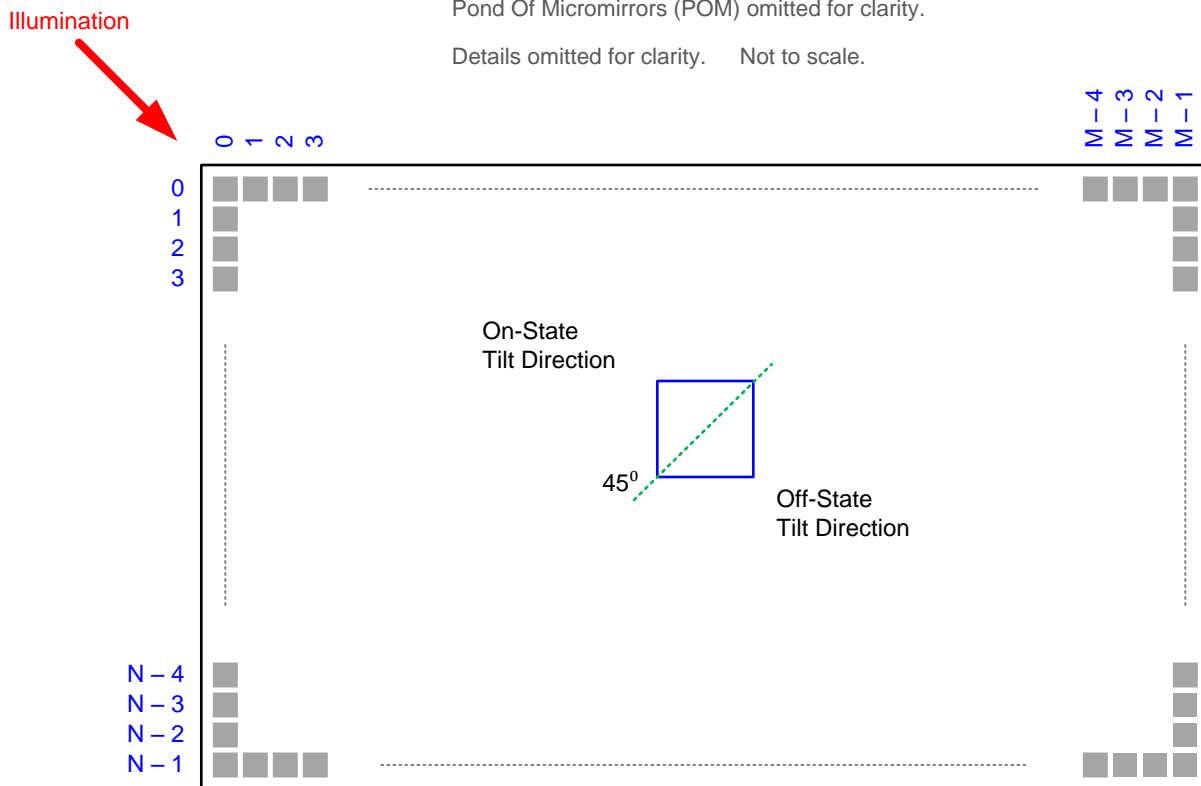

Figure 9. Micromirror Landed Orientation and Tilt
- (1) Measured relative to the plane formed by the overall micromirror array.
(2) Variation can occur between any two individual micromirrors located on the same device or located on different devices.
(3) Additional variation exists between the micromirror array and the package datums. See package drawing.
(4) See Figure 9.